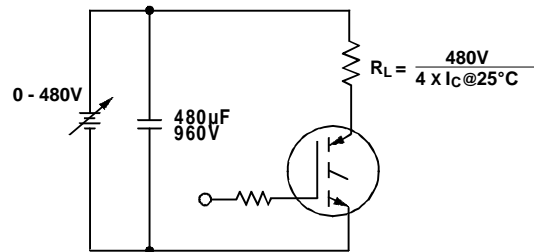

Fig. 13b - Pulsed Collector Current Test Circuit
- ① Repetitive rating; $V_{GE} = 20V$, pulse width limited by max. junction temperature. (See Fig. 13b)